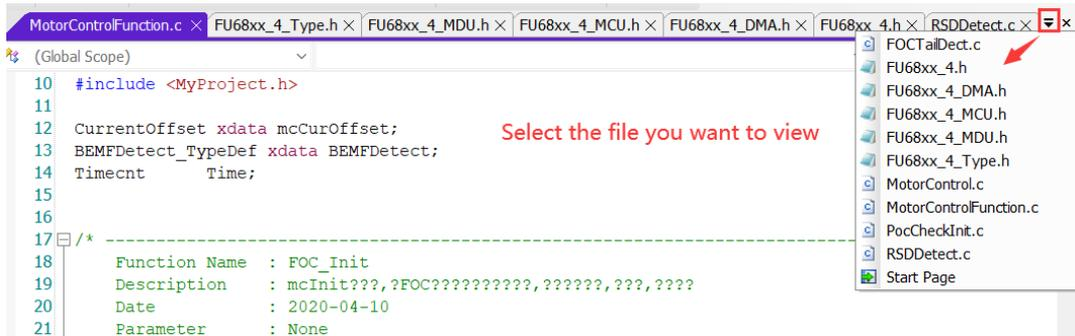

Figure 3-10
19. If there are too many open files and you don't want to close them, you can select them in the way shown in Figure 3-10.